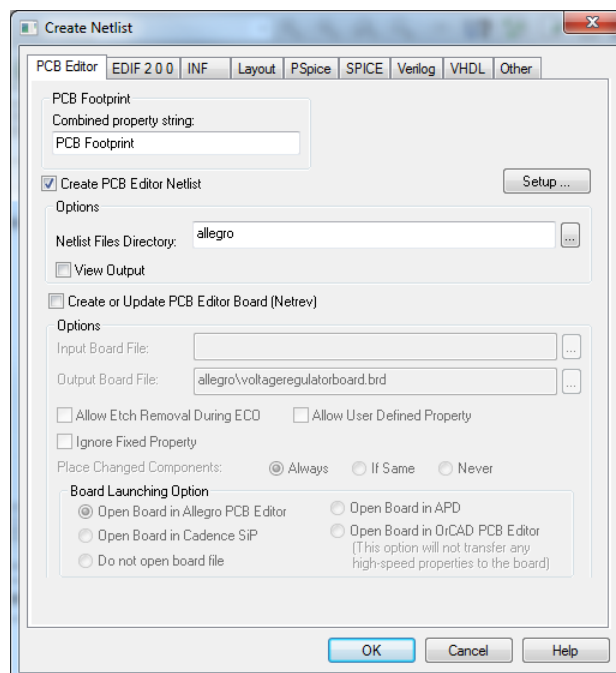

Figure 3. Create Netlist dialog box.
7. The **Create Netlist** dialog box appears. Select the **PCB Editor** tab. Make sure that **PCB Footprint** is in the **PCB Footprint** field and that the box next to **Create PCB Editor Netlist** is selected. Click **OK** and exit **Design Entry CIS**. (see Figure 3.)